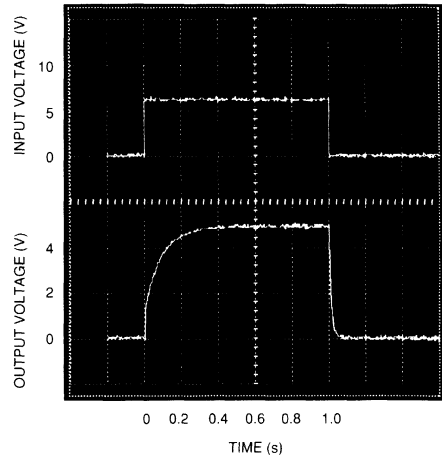
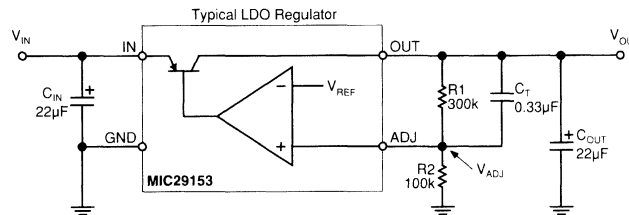
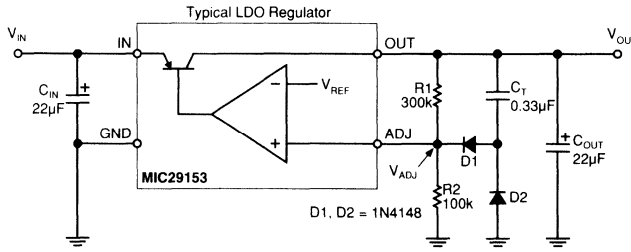
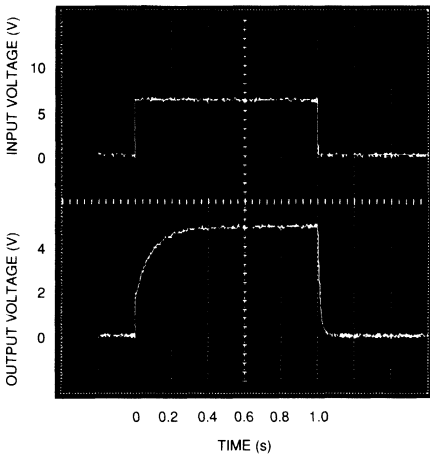

Figure 2. Turn-On Behavior for Circuit of Figure 1
Figure 1. Simplest Slow Turn-On Circuit
Figure 3. Improved Slow Turn-On Circuit
Figure 4. Turn-On Behavior of Figure 3
Figure 1 illustrates a typical LDO voltage regulator, the MIC29153, with an additional capacitor (CT) in parallel with the series leg (R1) of the feedback voltage divider. Since the voltage (VADJ) will be maintained at VREF by the regulator loop, the output of this circuit will still rapidly step to VREF and then rise slowly. Since VREF is usually only about 1.2V, this eliminates a large part of the surge current.
Figure 2 shows the waveforms of the circuit of Figure 1. This circuit has three shortcomings: (1) the approximately 1.2V step at turn-on, (2) the addition of capacitor CT places a zero in the closed-loop transfer function (which affects frequency and transient responses and can potentially cause stability problems) and (3) the recovery time associated with a momentarily short-circuited output may be unacceptably long. This is because if the output is shorted CT is discharged only by R2; if the short is removed before CT is fully discharged the regulator output will not exhibit the desired turn-on behavior.
Figure 3 is an improvement on the circuit of Figure 1 in that it addresses the problems of potential instability and recovery time. Diode D1 is added to the circuit to decouple the (charged) capacitor from the feedback network, thereby eliminating the effect of  $C_T$  on the closed-loop transfer function. Because of the non-linear effect of D1 being in series with  $C_T$ , there is a slightly longer "tail" associated with approaching the final output voltage at turn-on. In the event of a momentarily shorted output, diode D2 provides a low-impedance discharge path for  $C_T$  and thus assures the desired turn-on behavior upon recovery.
Figure 4 shows the waveforms of the circuit of Figure 3. Note that the initial step-function output is now 0.6V higher than with the circuit of Figure 1. This approximately 1.8V turn-on pedestal may be objectionable, especially in applications where the output voltage is relatively low by design.